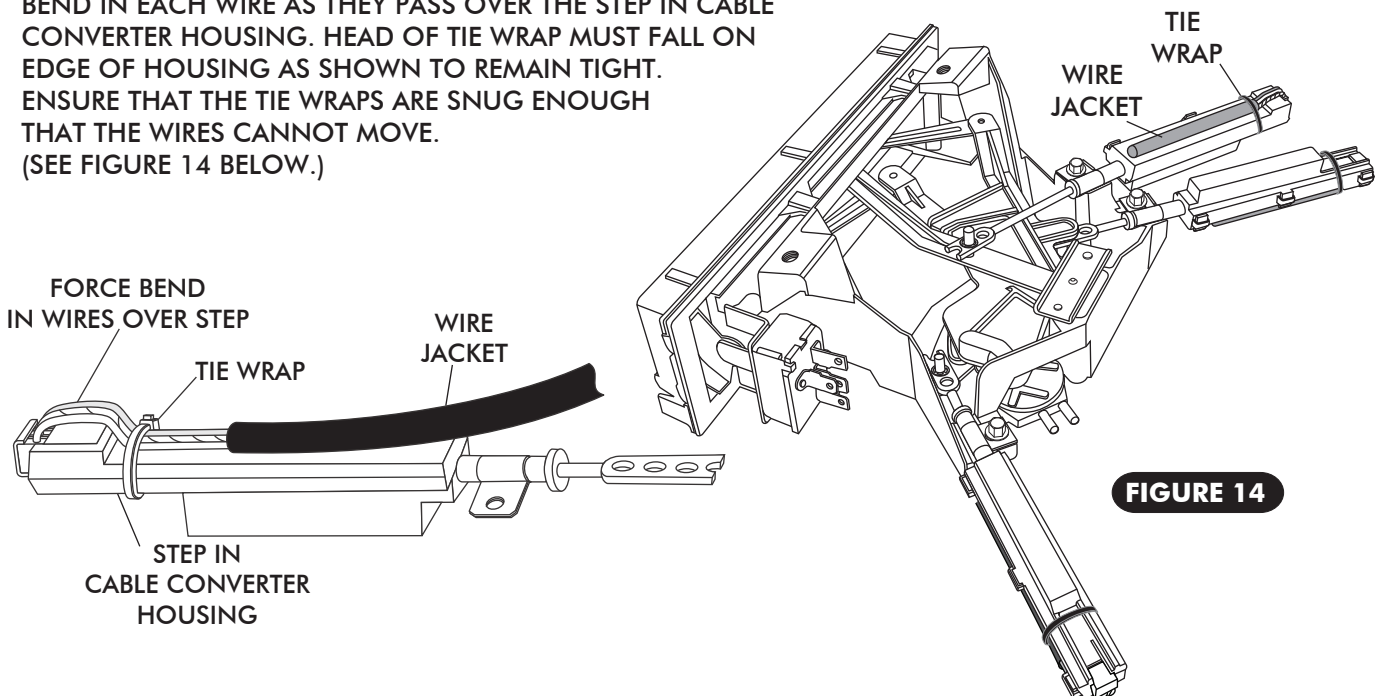

FIGURE 14
- ONCE WIRES ARE CORRECTLY PLUGGED INTO CABLE CONVERTER ASSEMBLY, SECURE WIRES TO THE CABLE CONVERTER ASSEMBLY USING TIE WRAPS (SUPPLIED). (SEE FIGURE 14 BELOW.) THE TIE WRAP MUST BE LOCATED BETWEEN THE END OF THE WIRE JACKET AND THE STEP IN THE CABLE CONVERTER HOUSING FORCING A BEND IN EACH WIRE AS THEY PASS OVER THE STEP IN CABLE CONVERTER HOUSING. HEAD OF TIE WRAP MUST FALL ON EDGE OF HOUSING AS SHOWN TO REMAIN TIGHT. ENSURE THAT THE TIE WRAPS ARE SNUG ENOUGH THAT THE WIRES CANNOT MOVE. (SEE FIGURE 14 BELOW.)